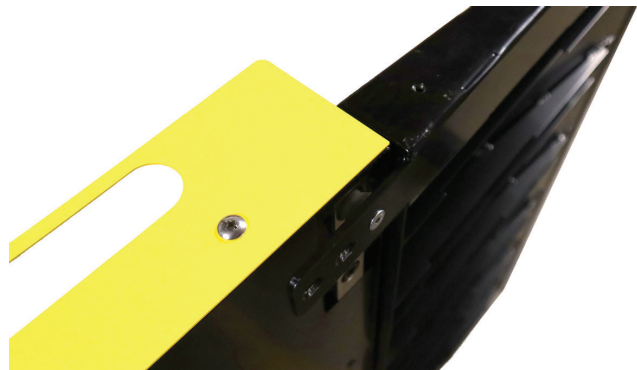

Figure No. 2
- Using the supplied 5/32 in. short hex key, tighten both screws securely (See Figure No. 2).